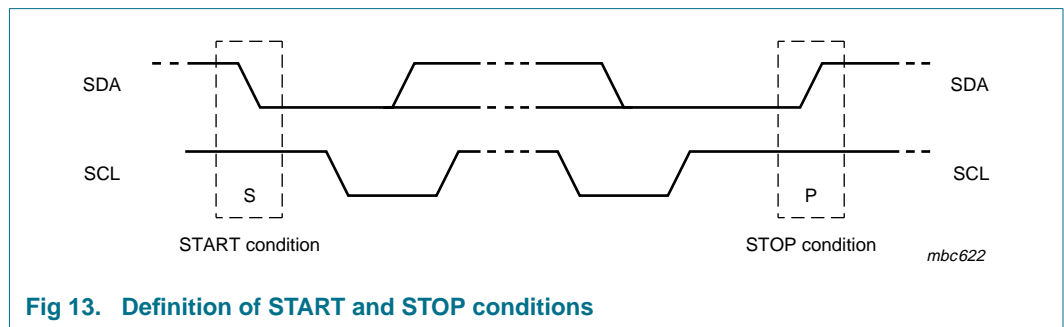

Fig 13. Definition of START and STOP conditions
A LOW-to-HIGH change of the data line, while the clock is HIGH, is defined as the STOP condition (P). The START and STOP conditions are illustrated in Figure 13.